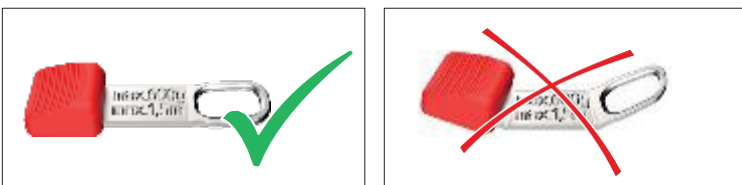

Figure 12: Do not use tools when clip is deformed or has sharp edges
- Never use the flat belt loop for abridged connection for tethering (Figure 12).
Do not use tools with KNIPEXTEND TetheredTool Clip if the clip is deformed or has sharp edges (see figure 12).